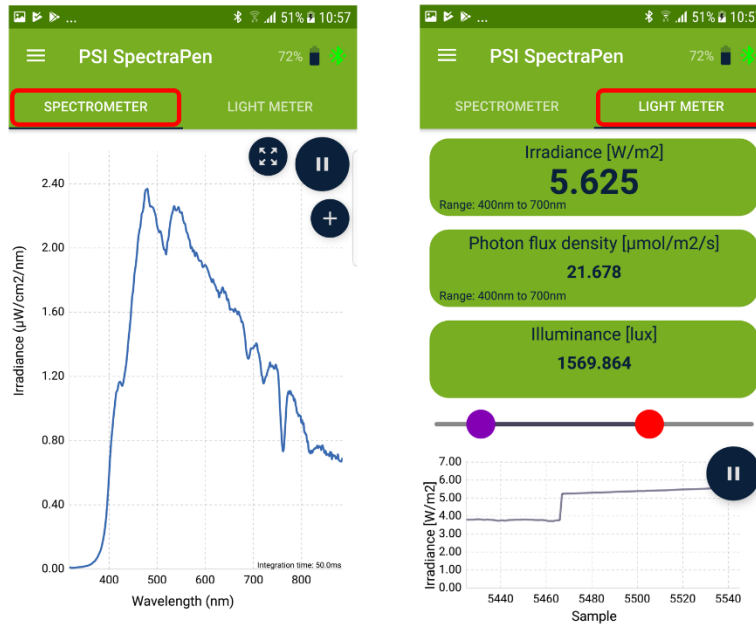

Fig. 5 Real-time reading measurement of light spectrum (left) and light intensity (right).
7. Select between the real-time reading measurement of Irradiance spectrum - **Spectrometer** and light intensity reading as Irradiance, Photon flux density and Illuminance - **Light meter** (Fig. 5).